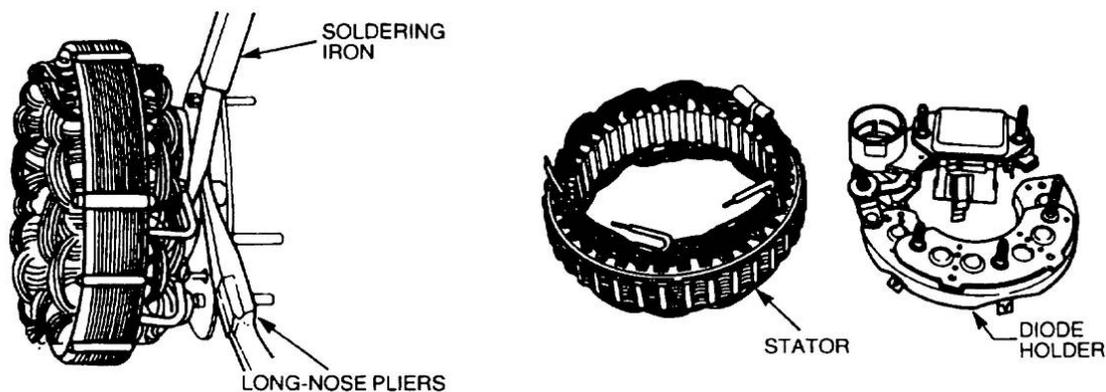

Figure 315 Removal of the Diode Holder
- h. Hold the lead wire connecting the stator coil to the diode with long-nose pliers and melt the solder connection with a soldering iron (Figure 315). Repeat the procedure for the remaining connections and separate the coil from the diode holder.